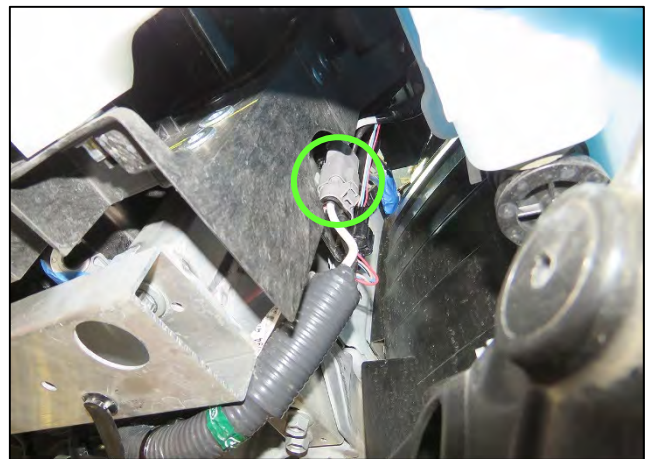

Figure 37
- Electric power steering type shown in Figure 37.
- Located on either the driver (LH) side or passenger (RH) side of the front corner of the front suspension member.